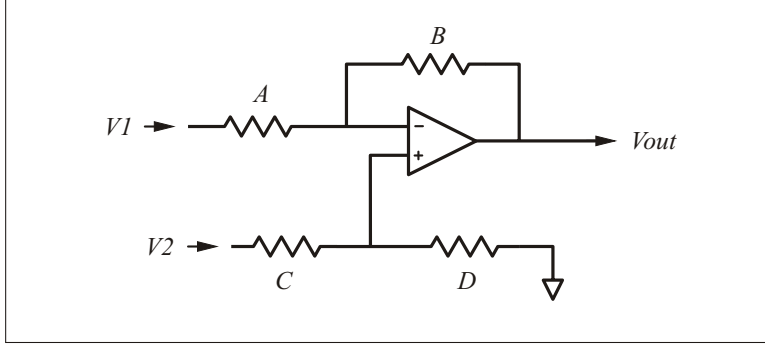

Figure 16: General difference op amp circuit
Despite the many special cases possible with Figure 16 and equation (27), the standard inverting amplifier with bias has several advantages. In particular, the following is often a good match for mapping $(-5, +5)$ into $(5, 0)$ with $V_{bias} = +5$ volts: